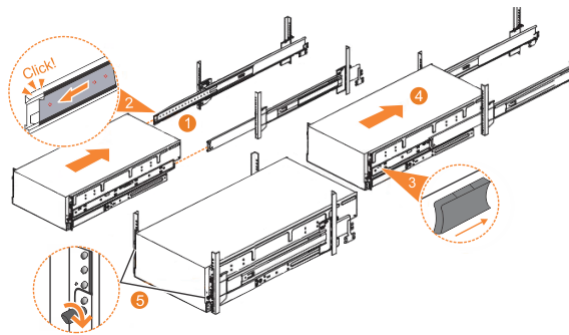

Figure 45. Replacing the 5U enclosure in the rack
1. Fully extend the left and right drawer sections from the rack to lock the rails in the extended position (1 in Figure 45 on page 86).
2. Ensure that the ball bearing retainer clicks into place inside the front of the left and right drawer sections (2 in Figure 45 on page 86).
6. Locate the left and right blue release tabs near the front of the enclosure. Press both release tabs forward to unlock the drawer mechanism (3 in Figure 45 on page 86).
7. Push the enclosure firmly into the rack (4 in Figure 45 on page 86).
8. Tighten the locking thumb screws (5 in Figure 45 on page 86) to secure the enclosure in the rack.